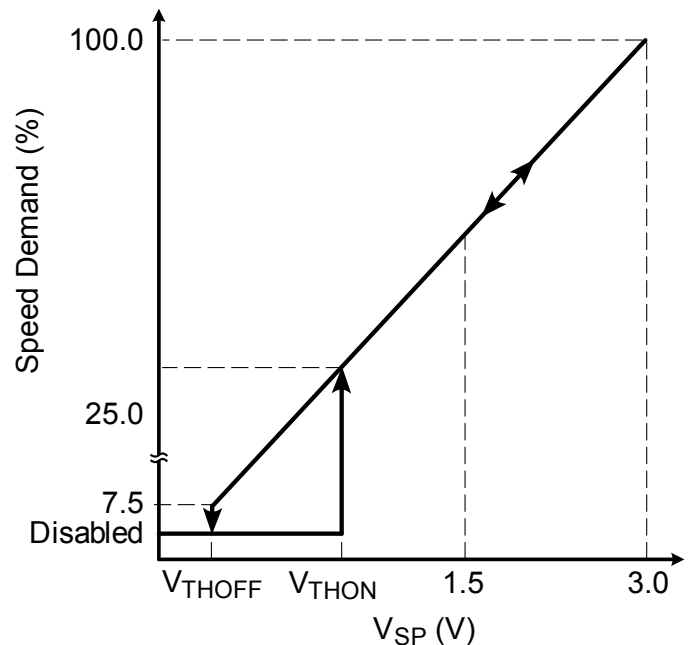

Figure 2: A4945 Analog Speed Input Characteristic
**A4945 – VSP Pin Analog Input.** An internal A-to-D convertor translates the input voltage to a demand value to control speed of the fan (Figure 2). The motor drive will be disabled if the VSP pin voltage is lower than  $V_{THOFF}$ . Upon startup,  $V_{IN}$  must exceed  $V_{THON}$  for  $t_{ON}$ . The  $t_{ON}$  delay is required to allow internal reference supply and analog circuits to properly power-up. After this short delay,  $V_{SP}$  can be adjusted below  $V_{THOFF}$  to allow full scale operation (7.5% to 100%).